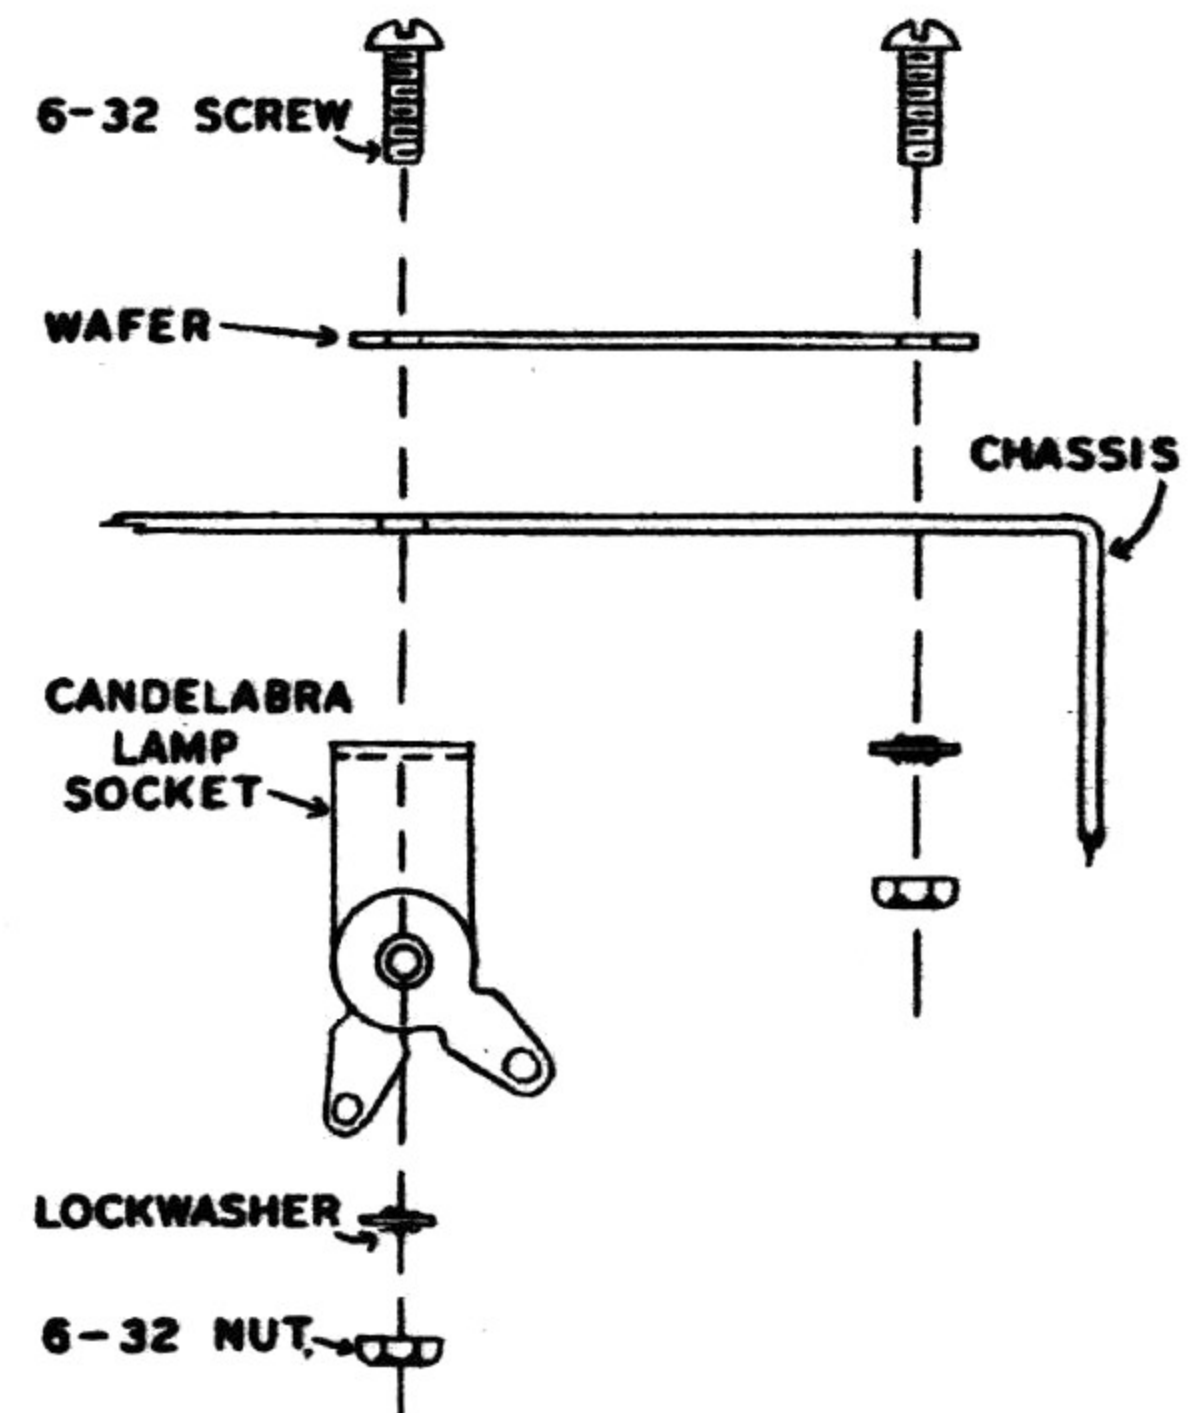

Figure 3
- ( ) Mount the condenser mounting wafer on top of the chassis. At the same time, install the candelabra lamp socket as shown in Figure 3.